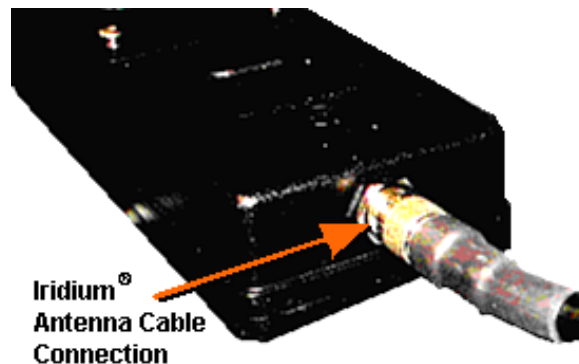

Figure 6. Iridium[®] Modem Antenna Connection
- (5) Place Antenna/Tripod Assembly in selected position.
- (6) Run the opposite end of the 50 foot antenna cable and connect to the Iridium[®] Modem as shown in Figure 6.